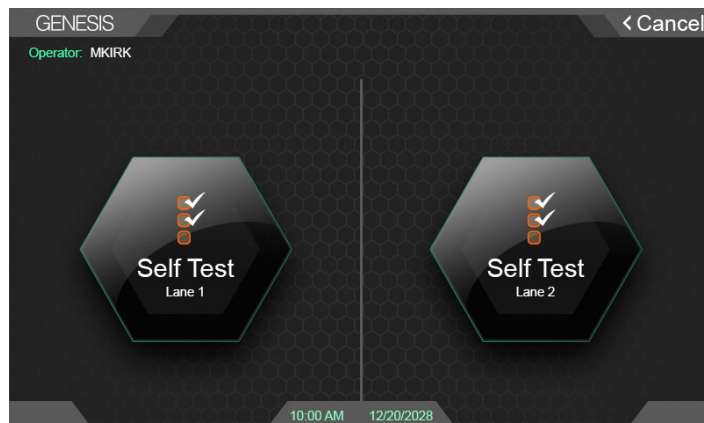

Fig. 17. Run Self Test.
- Press **Start** from the home screen to reach the Self Test screen. Select each lane to initiate the Self Test (Figure 17).